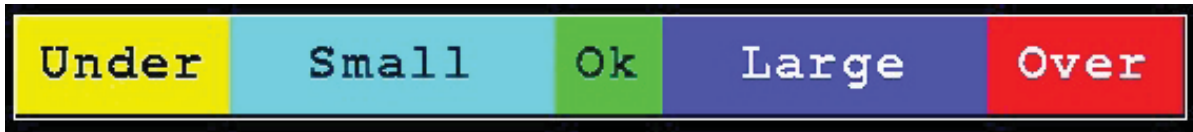

Figure 2: Graphical representation of Checkweigher zone configurations.
3. The **Add/Edit Presets** menu shows all zone configurations and gives a graphical representation of what the current zone configuration will look like (figure 2).